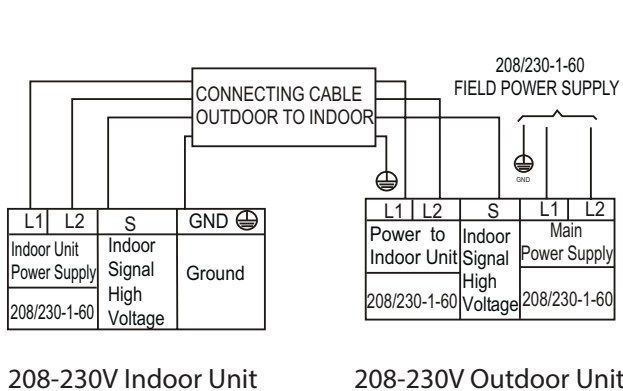
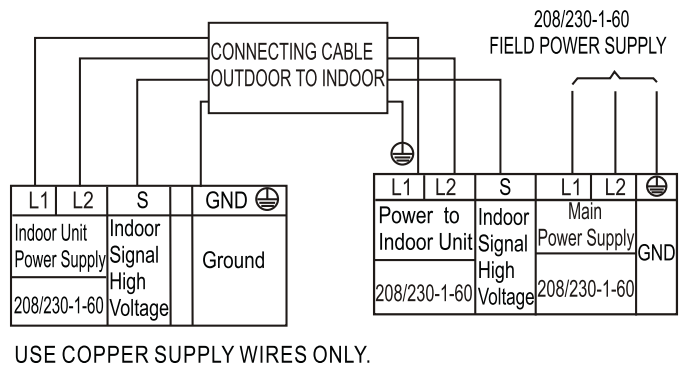

Fig. 15 — Connection Diagrams Sizes 9K-12K
Fig. 16 — Connection Diagrams Sizes 18K-24K
9. Connect wiring from outdoor unit per connection diagram (see Fig. 15 and Fig. 16).